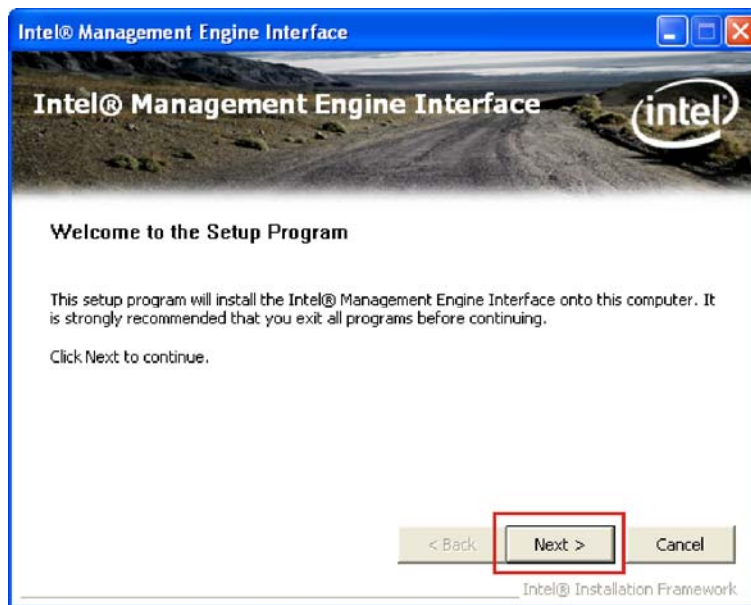

Figure 6-38: IAMT Welcome Screen
Step 3: The welcome screen appears (Figure 6-38).